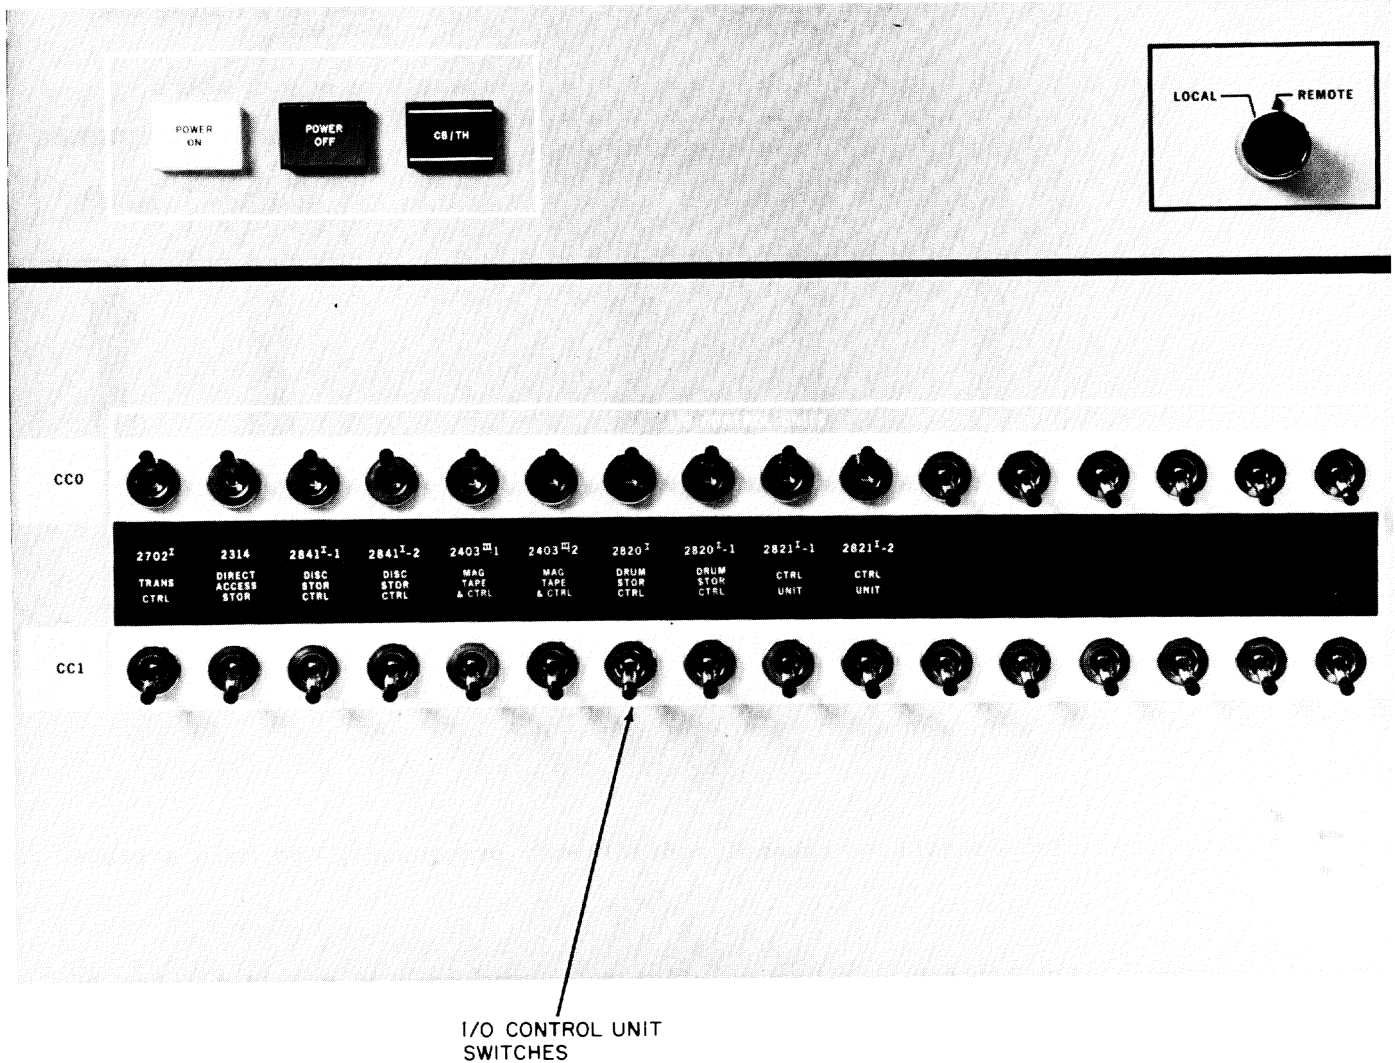

Figure 4. Configuration console -- I/O control units
6. Set the I/O CONTROL UNIT switches so that each active control unit is attached to every active channel controller. Set all other I/O CONTROL UNIT switches to INACTIVE (see Figure 4).